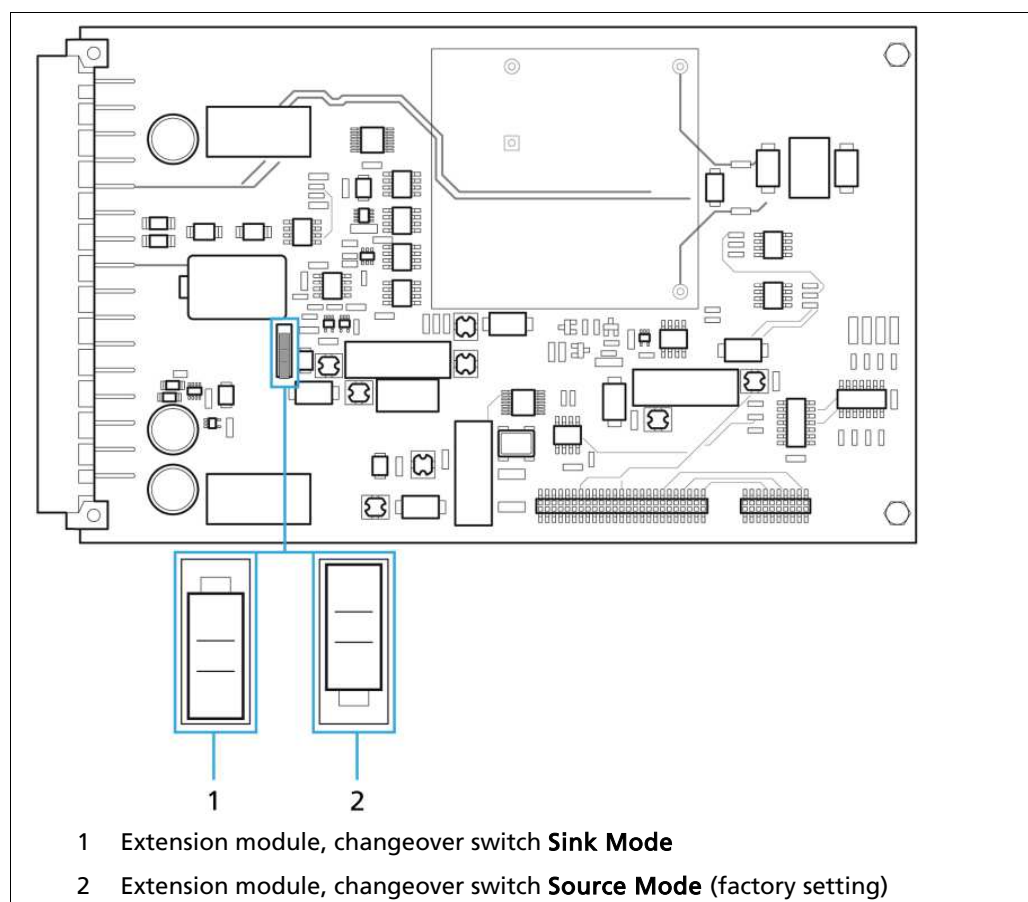

Fig. 13 Extension Module, Setting the Current Output at the Changeover Switch
5. Set the desired position at the changeover switch (**Sink Mode** (Fig. 13, Pos.1) or Position **Source Mode** (Fig. 13, Pos. 2)).